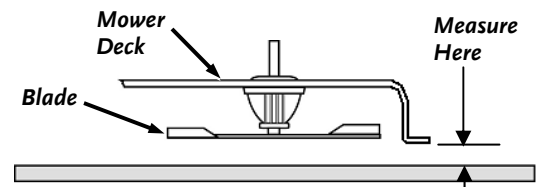

Figure 20
1. Measure the distance from the ground to the bottom of the Deck Edge Flange at the front and rear of the Deck (**Figure 20**).
4. Measure the distance from the ground to the bottom of the Deck Edge Flange on the left and right sides of the Deck (**Figure 20**).